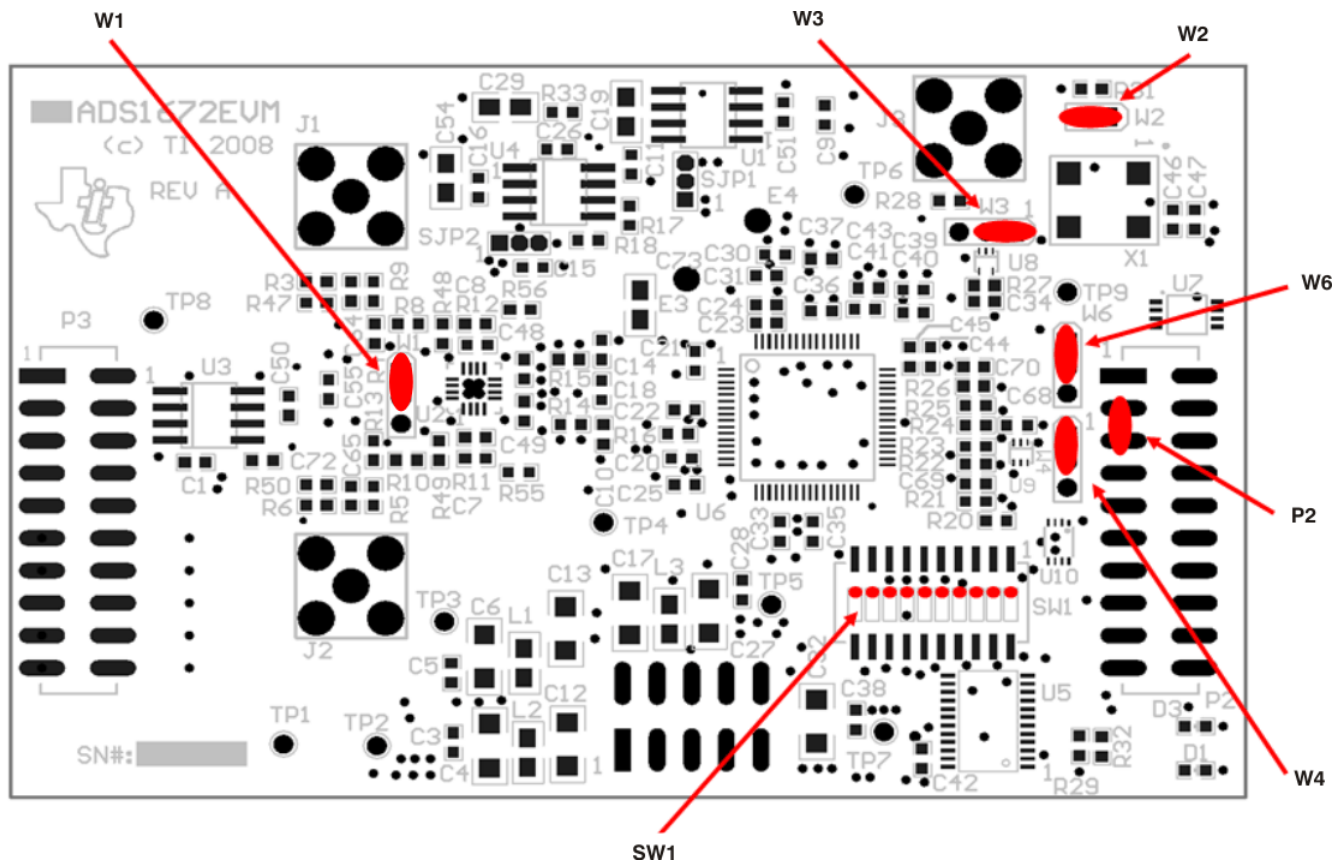

Figure 8. ADS1672EVM Default Jumper Locations
Figure 8 shows the jumpers found on the EVM and the factory default conditions for each.
- Step 3. Set the jumpers and switches on the ADS1672EVM as shown in Figure 8 (note that these settings are the factory-configured settings for the EVM).